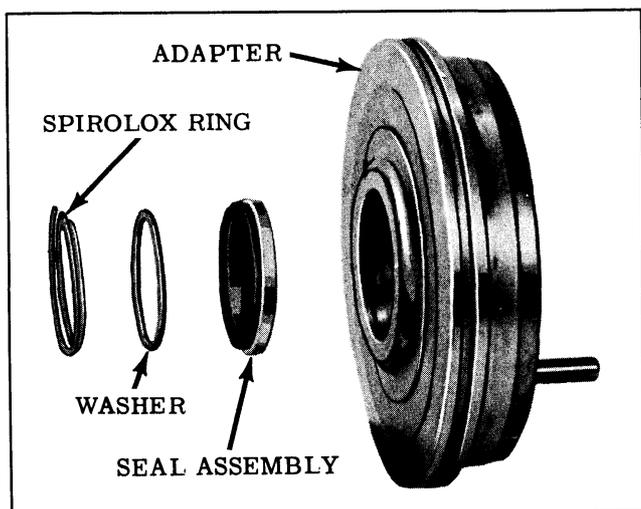

Fig. 5-57 Adapter Oil Seal
4. Install new adapter oil seal assembly as shown in Fig. 5-57, then install steel washer and Spirolox ring.